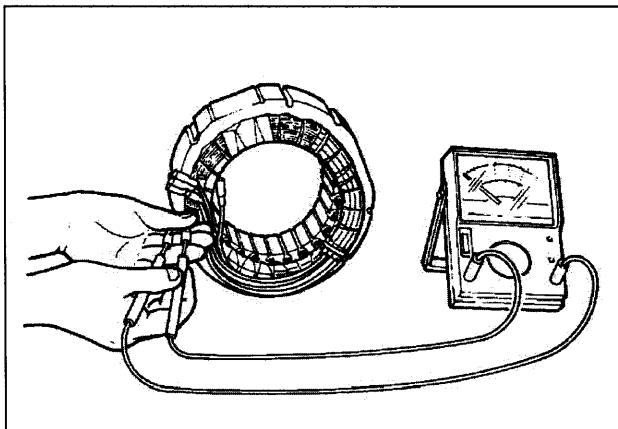

Fig. 6-1
- Measure the resistance between terminals on stator leads. (See Fig. 6-1.)